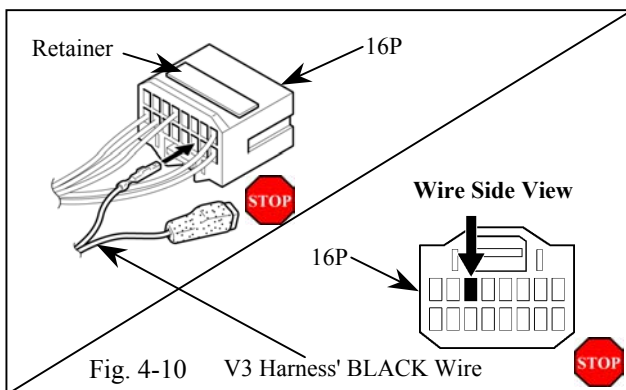

Fig. 4-10 V3 Harness' BLACK Wire
- (p) Insert the terminal at the end of the V3 harness' BLACK wire into the top row, third space from the left of the vehicle harness' 16P connector. (Fig. 4-10)
- (1) Turn the connector so the wire faces you and the tab is on top.
- (2) Verify the correct opening is chosen.
- (3) Verify the terminal is inserted and seated properly.
- (4) The terminal should not come out when pulled lightly from the back. If the terminal comes out, push it in further until securely seated.